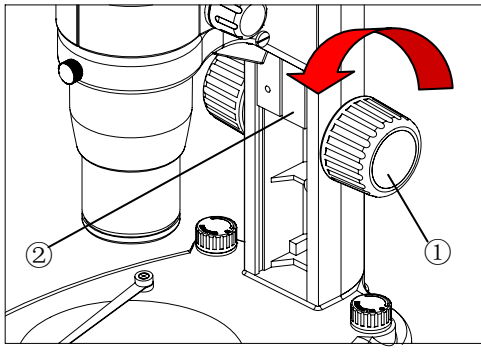
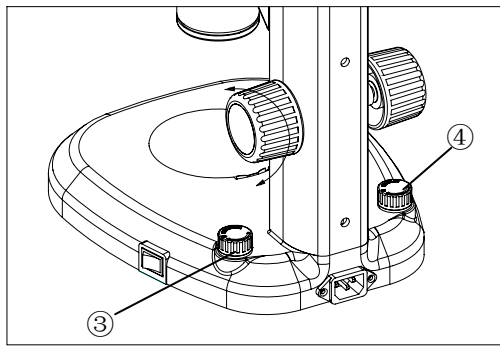

Fig.13
Fig.14
3.2.1 Adjusting the rotation tension of the focus adjustment knob (fig.13, fig.14)